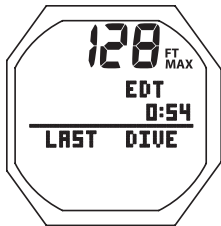

Fig. 27 - NORM SURF ALT 1
**NORM SURF ALT 1**, information includes (Fig. 27):